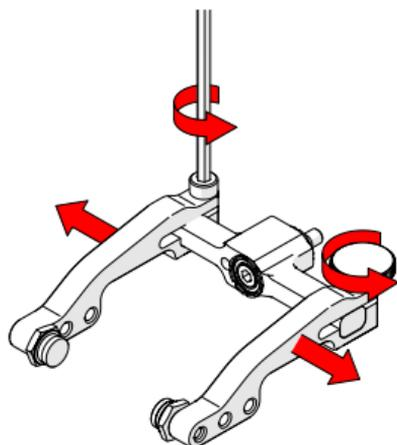

Fig. 106 - Remove arms
2. Loosen the probe holder arm adjustment knob and arm clamp screw. Slide the arms from the yoke (Fig. 106).